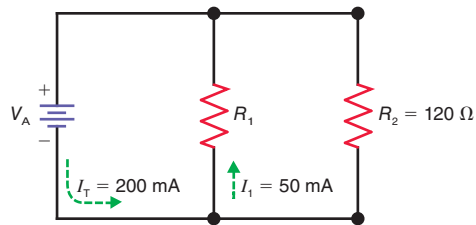

Figure 6-25
6.34 In Fig. 6-25, solve for V_A , R_1 , I_2 , R_{EQ} , P_1 , P_2 , and P_T .